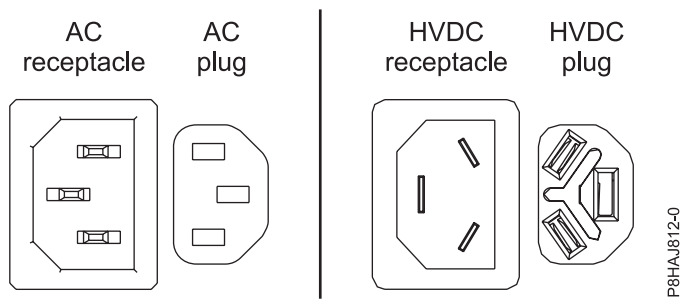
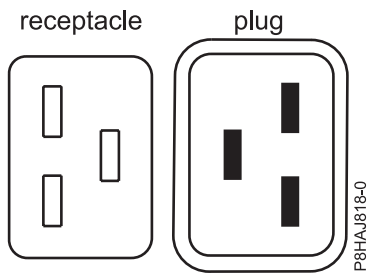
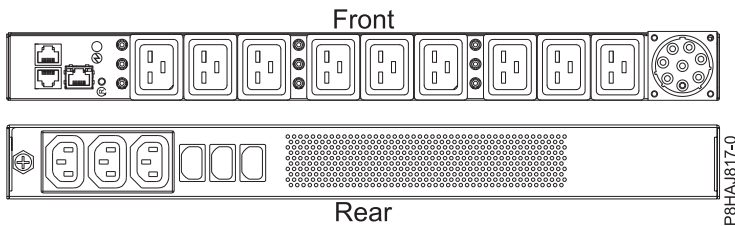

Figure 29. AC and HVDC connectors
Figure 30. Connectors for the 8408-44E system
Figure 31. PDU for the 8408-44E system
Figure 29 shows the supported alternate current (AC) and high voltage direct current (HVDC) connectors. Figure 30 and Figure 31 show the supported connectors and power distribution unit (PDU) for 8408-44E.